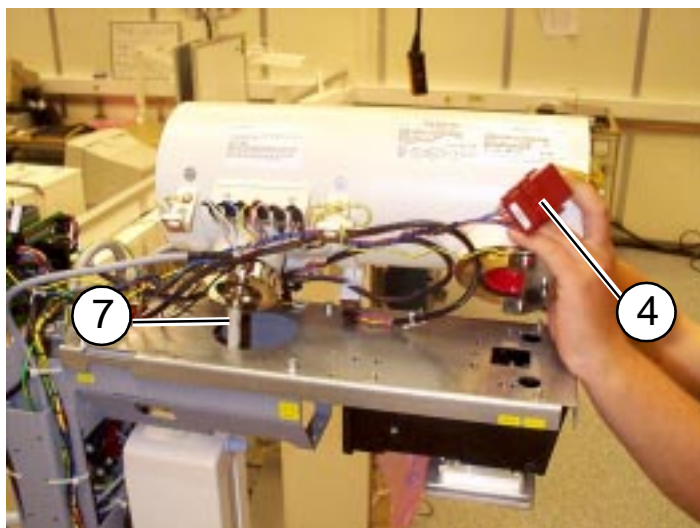

Fig. 3
4. Disconnect plug H11.X1 (monitor switch for front side of X-ray tube). (See Fig. 3, pos.4).
10. Remove the high voltage cable (see Fig. 3, pos.7).